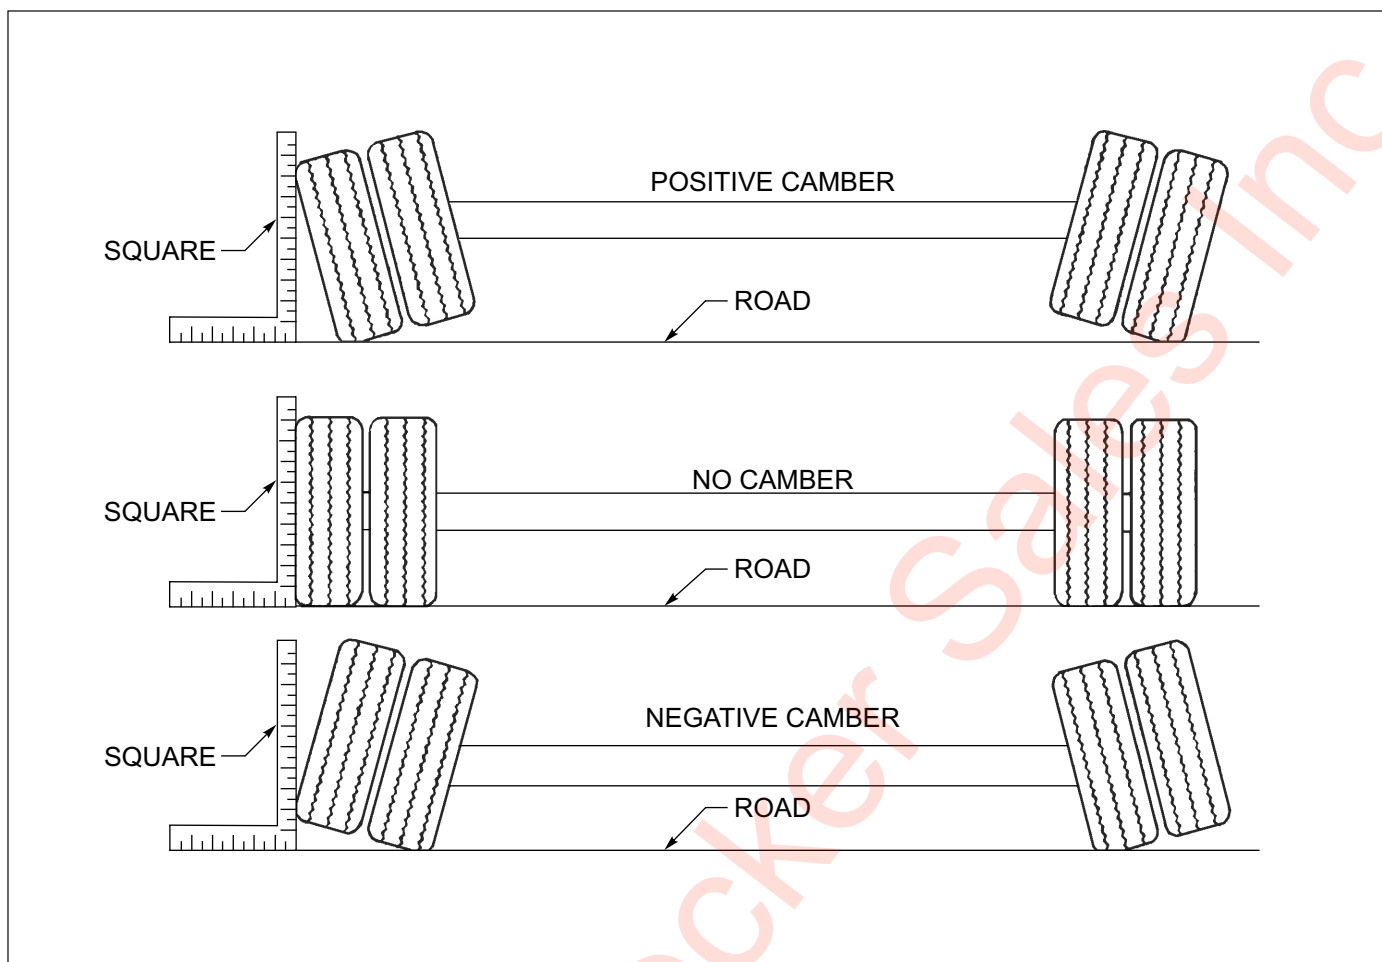

Figure 4-6: Examples of Camber
4. Follow the same procedures as in Steps 2 and 3, except place the axle gauge above and below the axle. If gauge point gap is found, the axle has positive or negative camber. The trailer axle has no camber from the factory. If it is found to have positive or negative camber, axle replacement is necessary for examples of camber (See Figure 4-6)